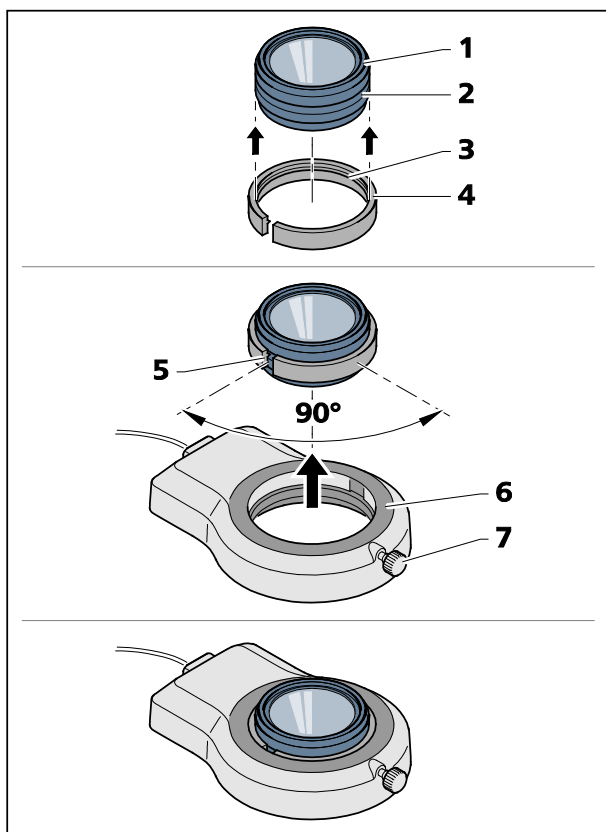

**Fig. 13** Mounting ring illuminator on microscope body
- Insert the connection cable (Fig. 13/1) of the ring illuminator (Fig. 13/4) into the lower socket (Fig. 13/2) of the Stemi mount and into the socket of the ring illuminator.
- Push ring illuminator onto the microscope body (Fig. 13/3) from below, and secure using the knurled screw (Fig. 13/5).